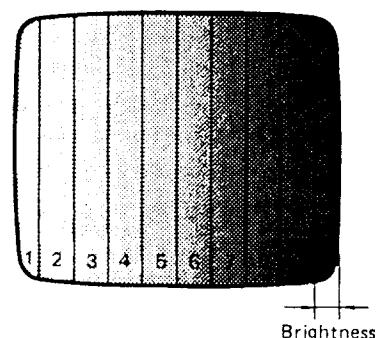

Fig. 4-2-7
- Adjust VR4 (SUBBRIGHT) so that the 2 steps from the black are suppressed to black color while observing the monitor screen. (Fig. 4-2-7)